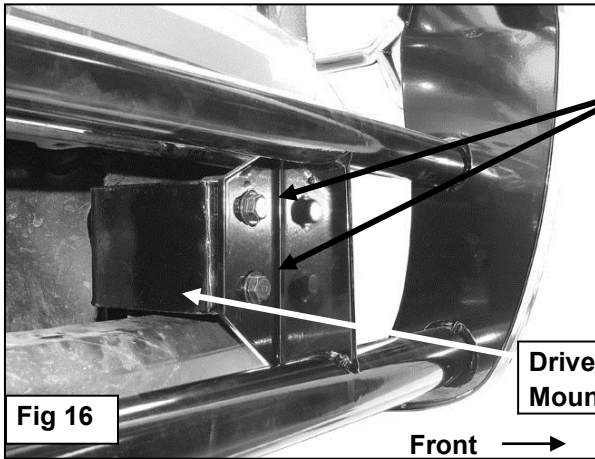

Fig 16
10. With assistance, hold the Grille Guard up to the vehicle. Stands are highly recommended. Line up the (4) mounting holes in the Frame Mounting Brackets with the holes in the mounting plates on the Grille Guard. Bolt the Grille Guard to the Frame Brackets with (4) 12mm x 40mm Hex Bolts, (8) 12mm Flat Washers, (4) 12mm Lock Washers and (4) 12mm Hex Nuts, **(Figure 16)**. Snug but do not tighten hardware at this time.